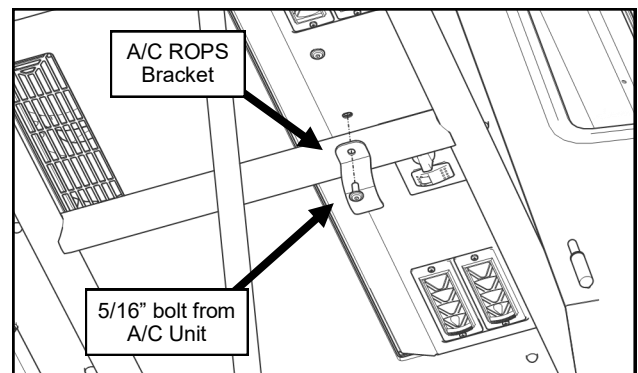

Fig. 5.4 (A/C ROPS Bracket)
- 5.4** Inside the cab, remove the bolt closest to the front, center of the A/C assembly and use it to install a ROPS bracket to the underside of the vehicle ROPS. See Figure 5.4.